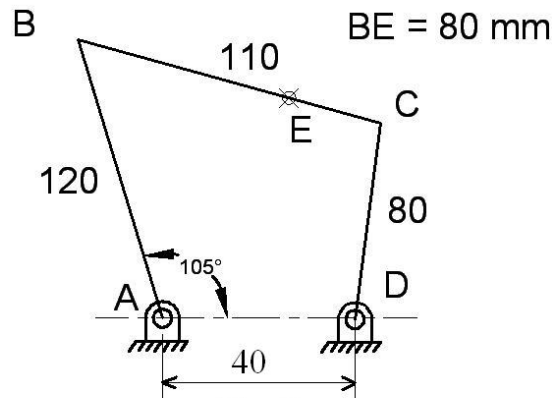

Fig. 3
- Q.3 (a)** For the mechanism shown in **Fig. 3**, draw velocity diagram and find out absolute velocity of point E and rubbing velocities at all the joint for equal pin radii of 15 mm. Take angular velocity of crank AB equal to 15 rad / s in counter clockwise direction. **07**
- (b)** For the mechanism shown in **Fig. 3** (Q-3, a), draw acceleration diagram and find out the absolute acceleration of point C and E. **07**